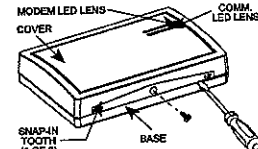

Figure 9 - Cover removal
A. Remove the screw securing the cover to the base (see Figure 9).